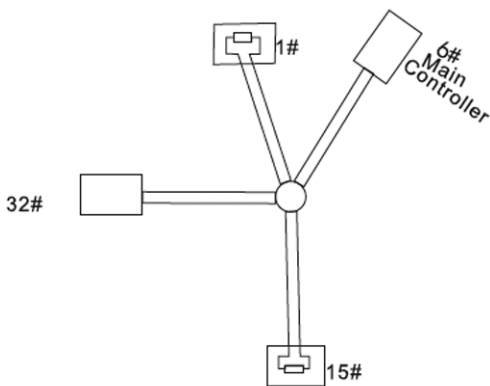
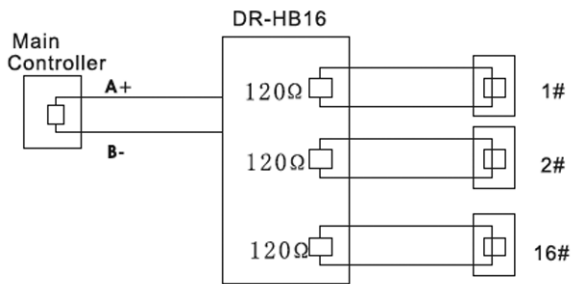

Figure39
Figure40
In special circumstances it may be necessary to adopt a star configuration to achieve the best connection. the termination resistors must be connected to the two items of equipment that are farthest away from each other, such as items 1 and 15 in Figure 39. As the star configuration does not conform to the RS485 standards, problems such as signal reflections and lower anti-interference performance may arise when the connecting cables are too long. The reliability of the control signals is decreased and the camera may not respond. It may respond intermittently or operate continuously without stopping (refer to Figure 40).